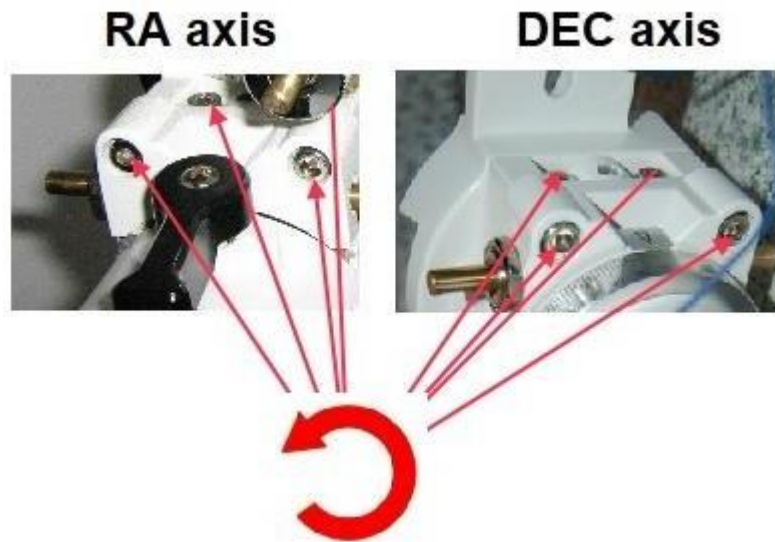

Fig. 1.1
**IMPORTANT:** For reliable and long-term operation of motors, the clamp of the worm screws to the gears should have a slight backlash. To reduce the pressure, it is necessary to loosen the adjustment bolts, indicated by arrows in Figure 1.1. In the absence of this backlash, the worm screws will be strongly pressed against the gears, which can lead to missing steps and the failure of the motors!